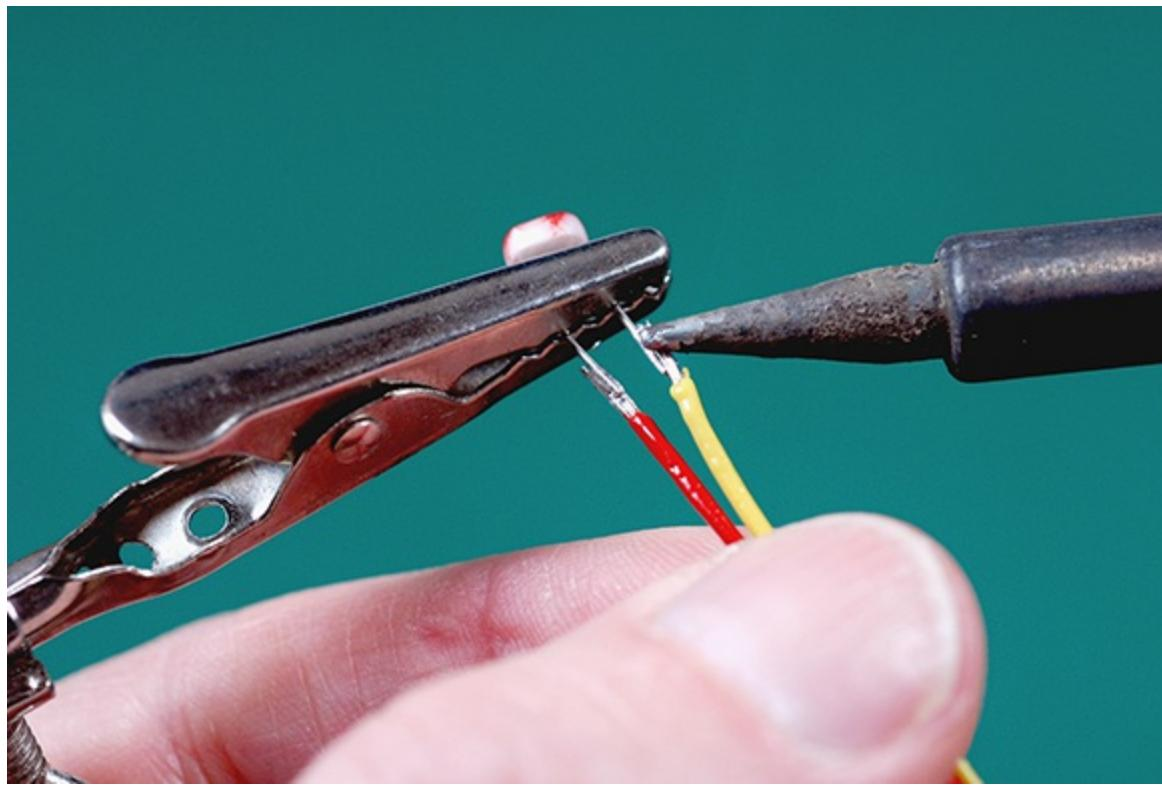

Figure 12-6: Soldering your light-level sensor.
- 6. For the light sensor, solder only two wires to your LDR, one for power and one for signal, as shown in Figure 12-6.**